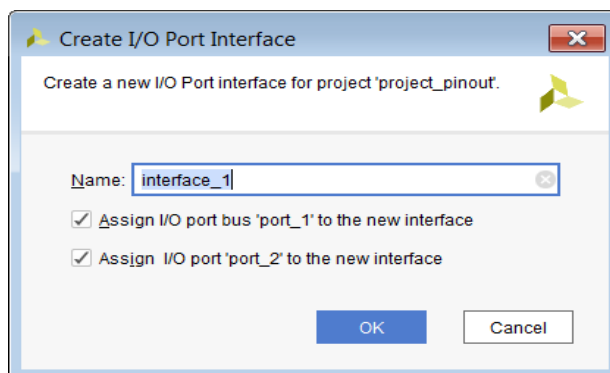

Figure 3-13: Create I/O Port Interface Dialog Box
3. In the Create I/O Port Interface dialog box (Figure 3-13), enter a name for the interface, adjust assignment selection, and click **OK**.